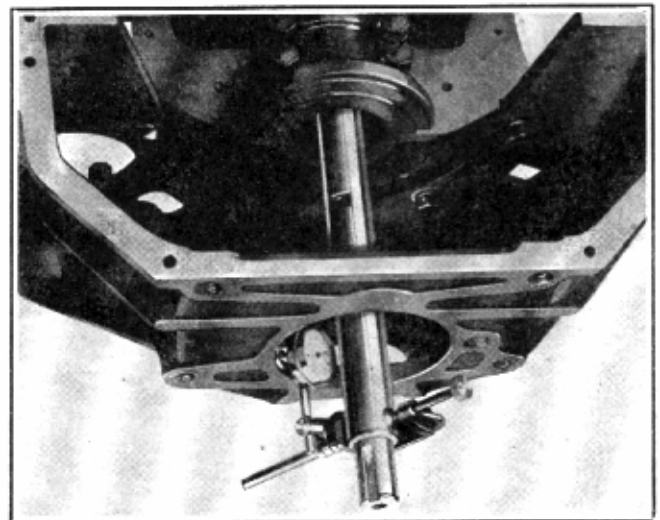

Fig. 18—Checking Clutch Housing
4. Thread the boring bar "F" through the bushings from the rear to the front. Then mount the dial gauge on the boring bar and check the alignment of the transmission pilot hole in the clutch housing, Fig. 18. The run-out must not exceed .015". If it does, it will be necessary to replace the clutch housing before proceeding with the job of installing new main bearings.